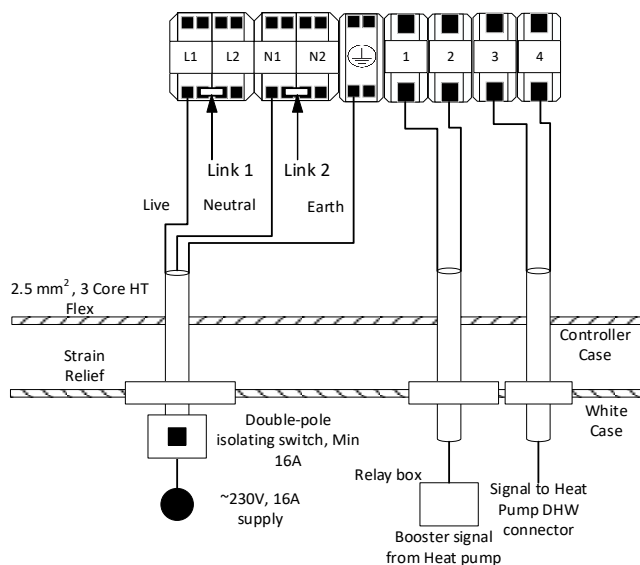

Figure 13.2: Wiring Option 2 - HW +iLTHP Daikin Low Temperature Heat Pump
- Using the cable assembly provided (C2293), plug the connector end in the Daikin Indoor unit “*EHBH04/8D6V*” controller PCB plug terminal X13A (please refer to Heat pump manual). Then run the cable out of the Daikin indoor unit and into the relay box (C2291) provided into “TRIGGER INPUT AC” terminals (please refer to relay box instruction sheet). Then wire the 2 core PVC insulated cable provided (C2295) from the relay box terminals “NO1” & “C1” to the Heat Battery, into the control box housing through the hole available. Secure the cables in Terminal T1 & T2 independently (Figure 13.2). Please note that the polarity of the wires is not important in this wiring setup. Please ensure to use the provided relay backbox (C2292) & 2 x Cable grommets (C2296) when running the wires into the relay box.
Using the cable assembly provided (C2294), place the connector end in the Daikin indoor unit controller “*EHBH04/8D6V*” PCB connector “X9A” (please refer to Heat Pump manual) , then run the wire into the Heat Battery via the Heat Battery case cabling grommets and then into the control box housing through the hole available. Secure the cables in Terminals T3 & T4 independently (Figure 13.2).